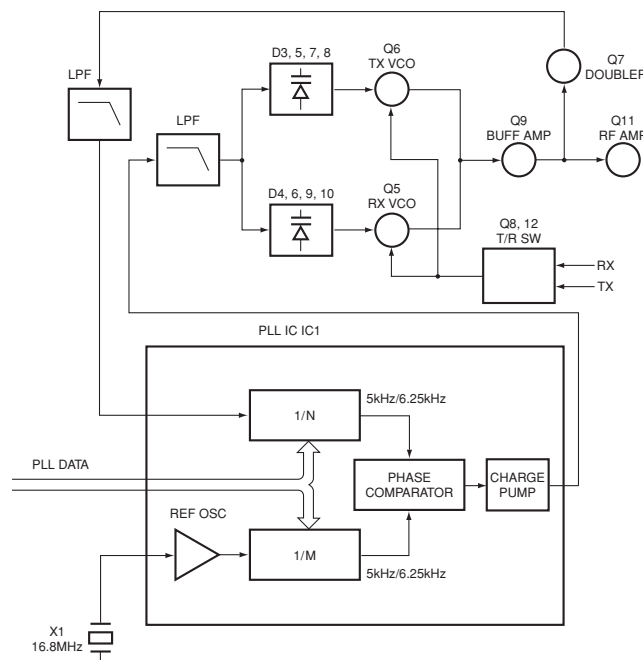

Fig. 6 PLL circuit / 图 6 PLL 电路
The frequency step of the PLL circuit is 2.5, 5, 6.25 or 7.5kHz. A 16.8MHz reference oscillator signal is divided at IC1 by a fixed counter to produce an oscillator (VCO) output signal which is buffer amplified by Q9 then divided in IC1 by a dual-module programmable counter. The divided signal is compared in phase with the 5 or 6.25kHz reference signal from the phase comparator in IC1. The output signal from the phase comparator is filtered through a low-pass filter and passed to the VCO to control the oscillator frequency. (See Fig. 6)
16.8MHz 的参考振荡信号在 IC1 中被一个固定计数器分频。振荡器 (VCO) 的输出信号由 Q9 缓冲放大, 然后在 IC1 中被一个可编程双模块计数器分频。分频的信号在 IC1 的相位比较器中进行比较。生成的信号通过一个低通滤波器滤波后传送到 VCO 控制振荡器频率。(见图 6)